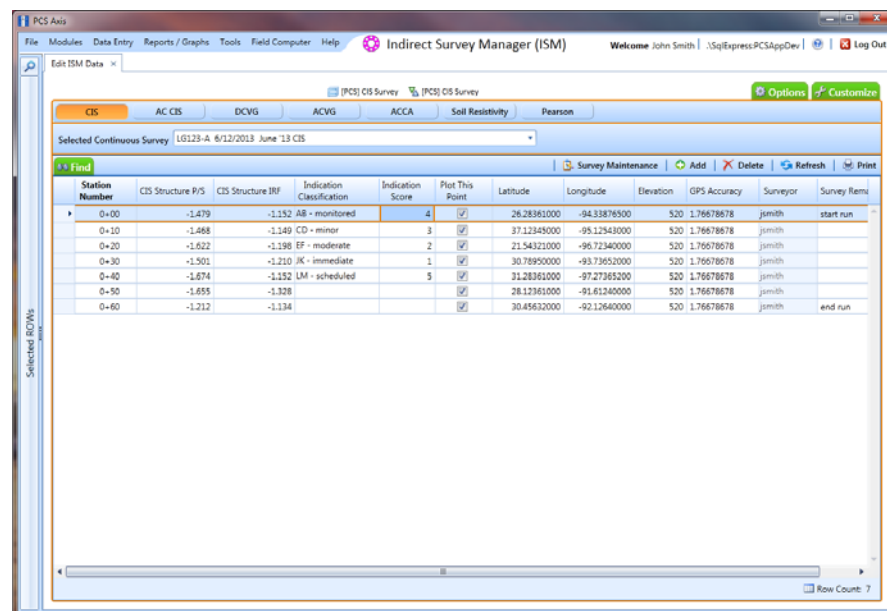

Figure 6-65. Edit ISM Data
- 3 Click **Data Entry > Edit ISM Data** to open the ISM data entry grid. Then click a button labeled with the type of continuous survey data you want to work with, such as the **CIS** button  (Figure 6-65).